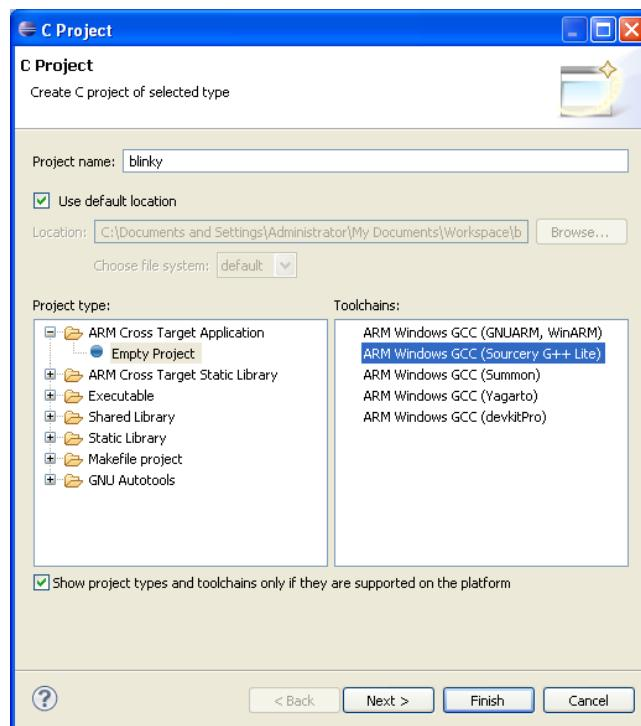

Figure 14.5 New Project Window
- Enter the project name. Make sure the selections are as shown in figure 14.5